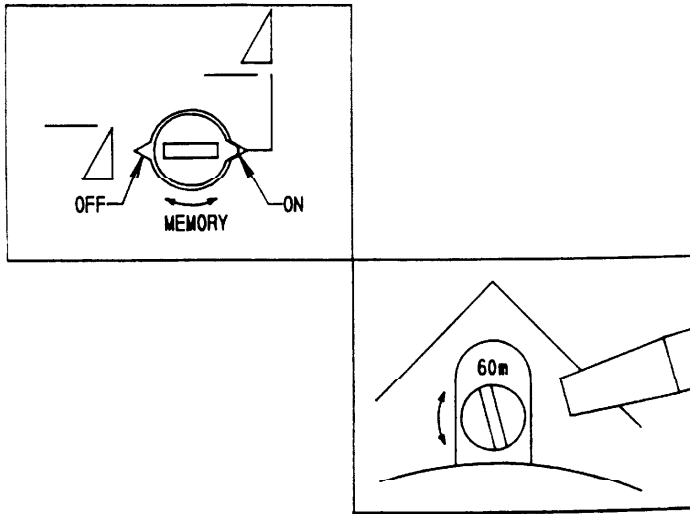

Figure 7
A. Use a small screwdriver and rotate the time range adjustment screw to the desired range (either 6M, 60M, or 12HR) as shown in Figure 7.